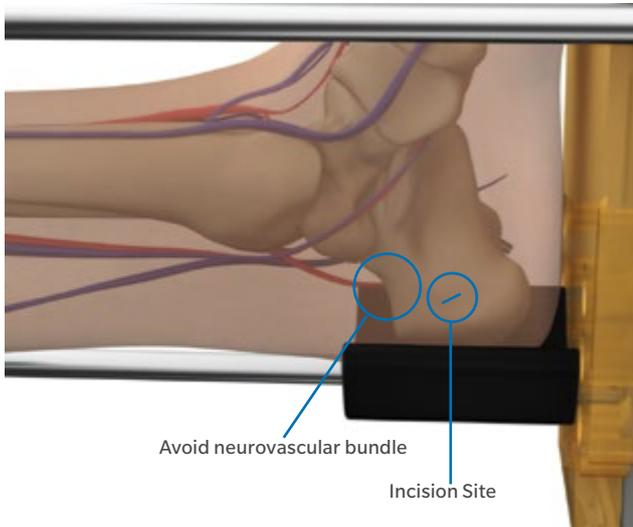

Fig. 18
- Make a small incision prior to pin insertion approximately 2.5 cm from the posterior heel and 2.5 cm from the distal heel (Fig. 18).